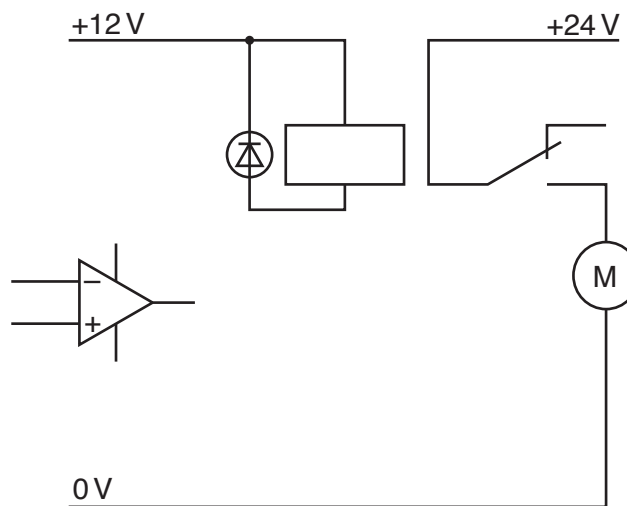

Fig. 21
- (v) The high output of the CA3140 operational amplifier is +10V with a maximum current of 10mA, which is not enough to operate the motor. Complete Fig. 21 to show a transistor circuit that will operate the relay to switch the motor on and off.